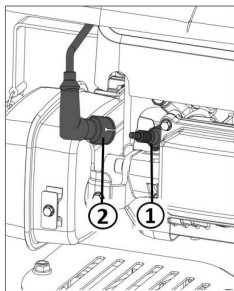

Figure 39
1. Remove the spark plug connector (Figure 39 ②) from the spark plug (Figure 39 ①).